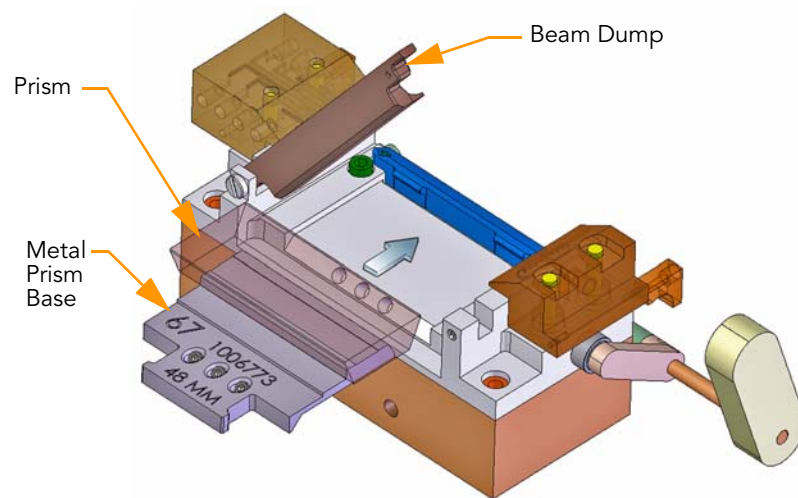

Figure 45 Install the Prism
4. Slide the metal prism base to the right until it stops (Figure 45).